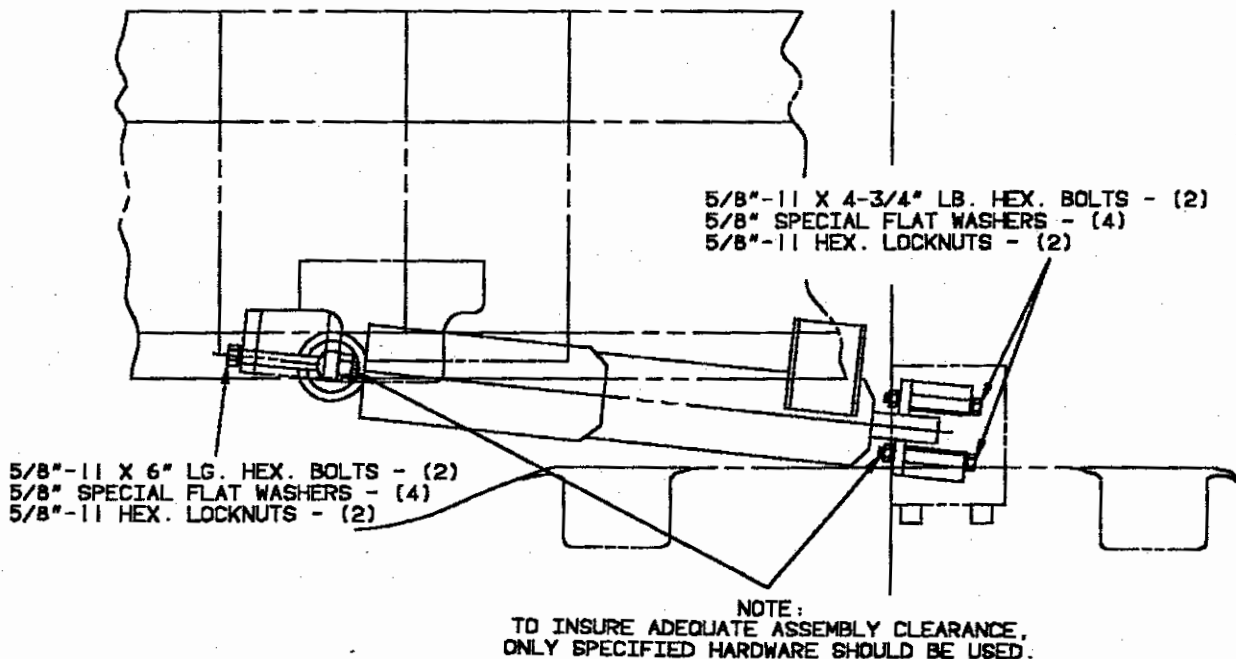

Figure 1. TYPICAL YAW DAMPER APPLICATION
2. All mounting hardware used should be original or equivalent, Figure 1.